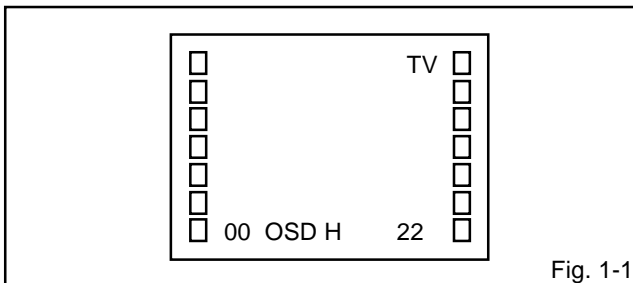

Fig. 1-1
2. Press the VOL. DOWN button on the set and the Channel button (9) on the remote control simultaneously to appear the adjustment mode on the screen as shown in Fig. 1-1.
4. Activate the adjustment mode display of Fig. 1-1 and press the channel button (03) on the remote control to select "V.VCO".
3. Activate the adjustment mode display of **Fig. 1-1** and press the channel button (**02**) on the remote control to select "RF AGC".
5. Activate the adjustment mode display of **Fig. 1-1** and press the channel button (**01**) on the remote control to select "CUT OFF".
4. Activate the adjustment mode display of **Fig. 1-1** and press the channel button (**10**) on the remote control to select "R CUT OFF".
3. Activate the adjustment mode display of **Fig. 1-1** and press the channel button (**05**) on the remote control to select "H PHAS".
3. Activate the adjustment mode display of **Fig. 1-1** and press the channel button (**07**) on the remote control to select "V SFT".
3. Activate the adjustment mode display of **Fig. 1-1** and press the channel button (**06**) on the remote control to select "V SIZE".
3. Activate the adjustment mode display of **Fig. 1-1** and press the channel button (**13**) on the remote control to select "BRI.CENT".